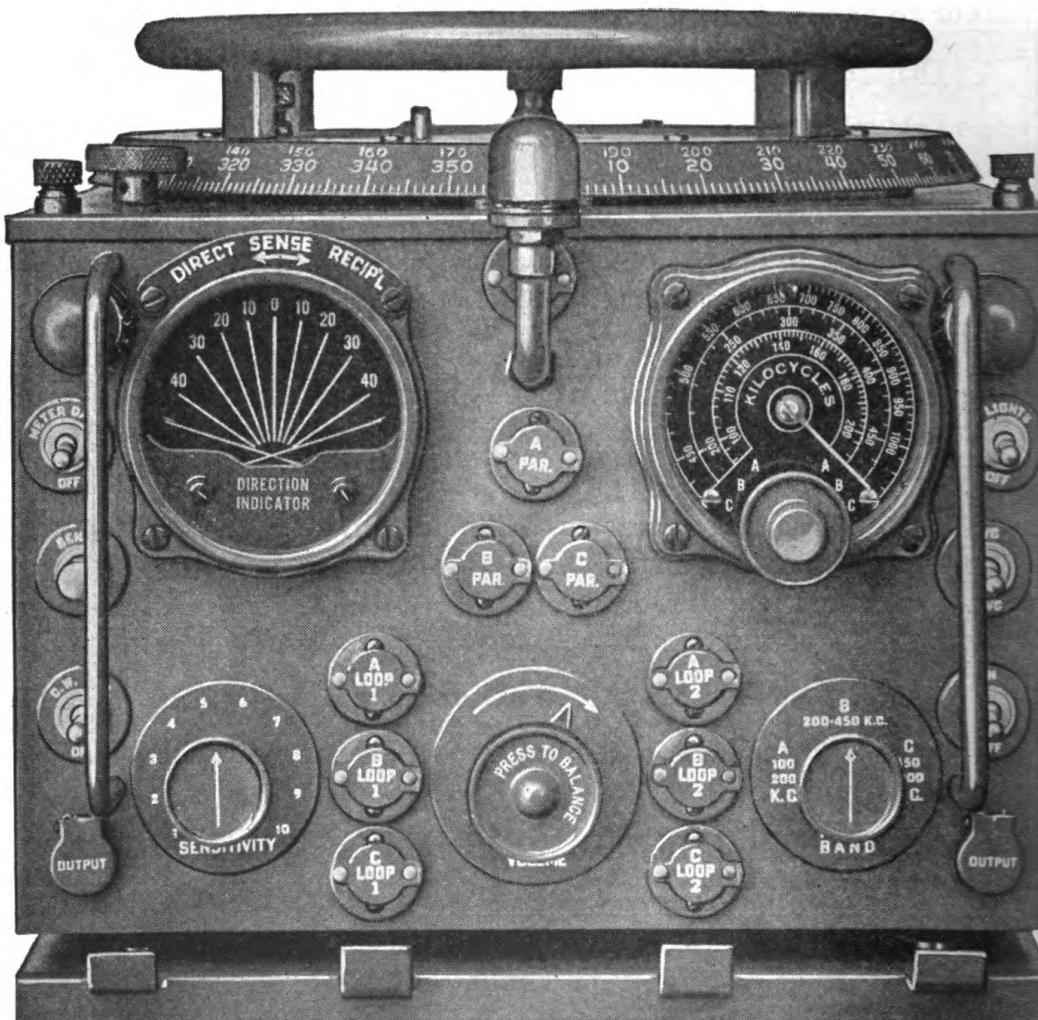

FIGURE 37. Radio Receiver BC-1003-B, oscillator and loop trimmer location.
- (d) Set the signal generator accurately at 1000 kc with an output of about 10 microvolts, and adjust the trimmer marked **C PAR.** (fig. 37) for maximum pointer deflection.
- (c) Set the signal generator accurately to 450 kc with an output voltage of approximately 10 microvolts and adjust trimmer marked **B PAR.** (fig. 37) for maximum pointer deflection.
(c) Set the signal generator accurately to 200 kc with an output of about 10 microvolts and adjust trimmer marked A PAR. (fig. 37) for maximum pointer deflection.
(d) Set the tuning dial of the receiver and the signal generator to 100 kc. The output of the signal generator should be approximately 10 microvolts. Adjust trimmer marked A SER. (fig. 37) for maximum pointer deflection.
(e) Peak the A band loop trimmers marked A LOOP 1 and A LOOP 2 (fig. 37) for maximum pointer deflection. Be sure that you watch the right pointer when peaking the right trimmer, and the left pointer when peaking the left trimmer. Disregard slight movements of the other pointer while making this adjustment.
(c) Peak the B band loop trimmers marked **B LOOP 1** and **B LOOP 2** (fig. 37) for maximum pointer deflection. Be sure to watch right pointer when peaking right trimmer and left pointer when peaking left trimmer. Disregard slight movements of the other pointer.
(c) Peak the C band loop trimmers marked **C LOOP 1** and **C LOOP 2** (fig. 37) for maximum pointer deflection. Be sure that you watch the pointer which corresponds to the trimmer you are adjusting. Disregard any slight movements of the other pointer.